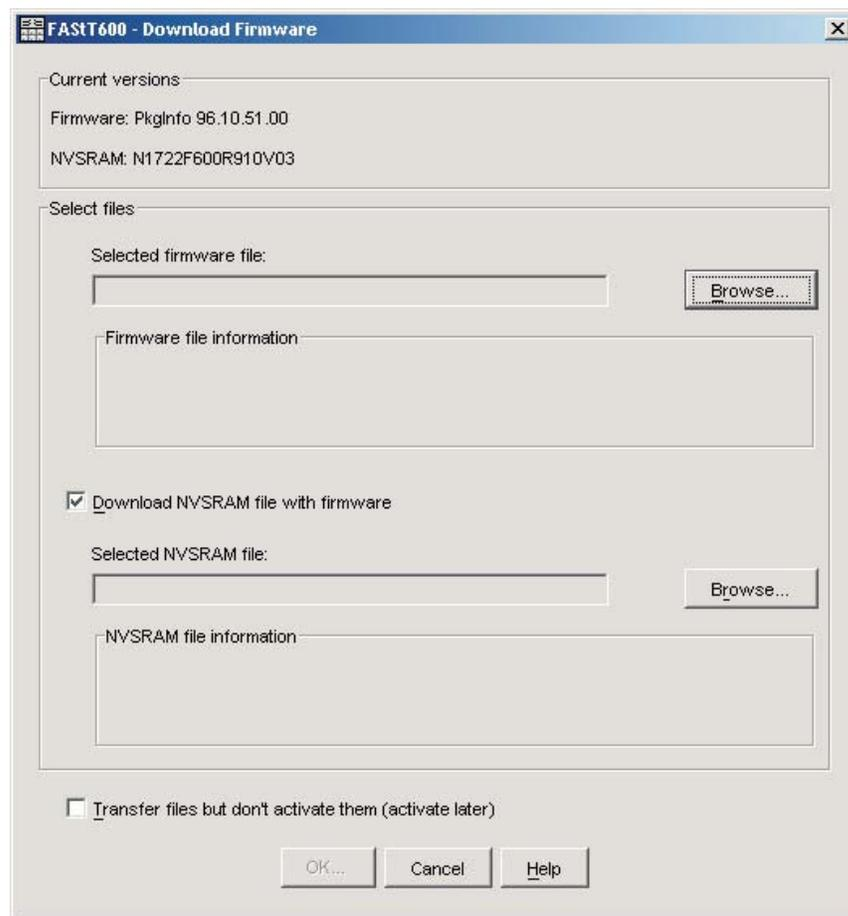

Figure 27. Download Firmware window
3. Click **Advanced** → **Maintenance** → **Download** → **Controller firmware....** The download firmware window opens as illustrated in Figure 27.